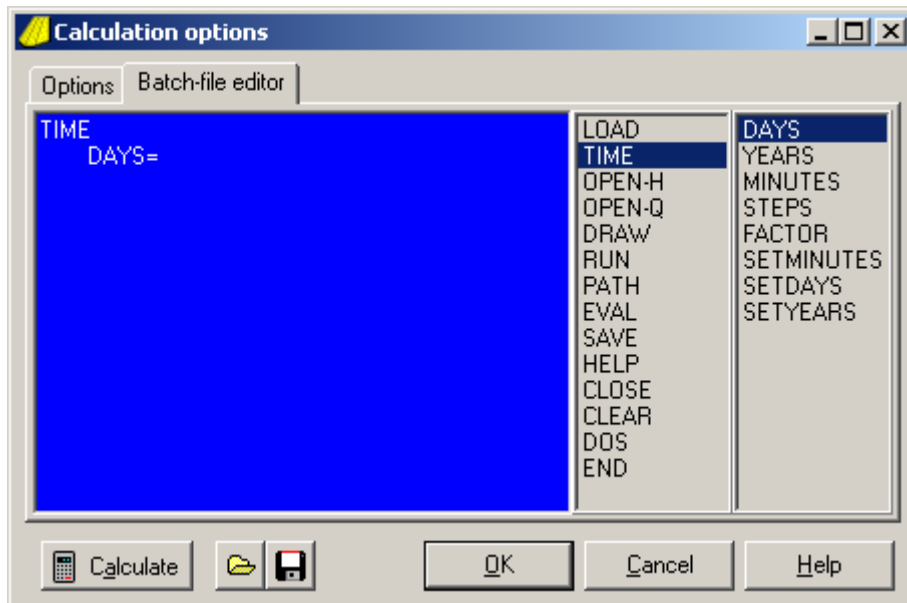

Figure 32: Batch-file editor (1)
8. Click on the "Batch-file editor"-tab. In the Calculate window a simple text editor appears (Figure 32):